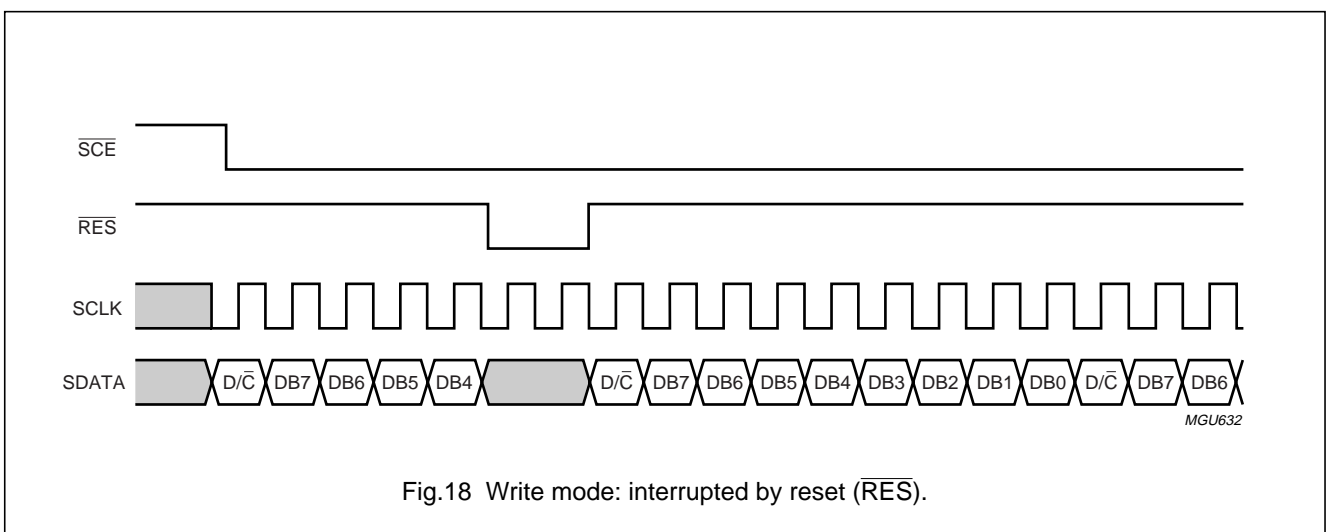

Fig.18 Write mode: interrupted by reset (\overline{RES}).
- A reset pulse with \overline{RES} interrupts the transmission. The data being written into the RAM may be corrupted. The registers are cleared. If \overline{SCE} is LOW after the rising edge of \overline{RES} , the serial interface is ready to receive the D/\overline{C} bit of a command/data byte (see Fig.18).